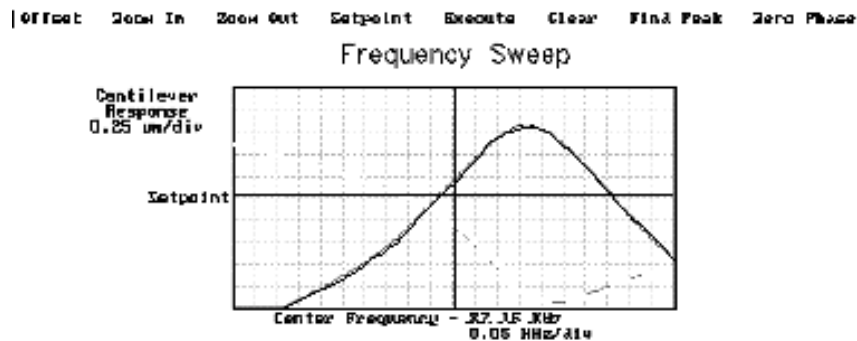
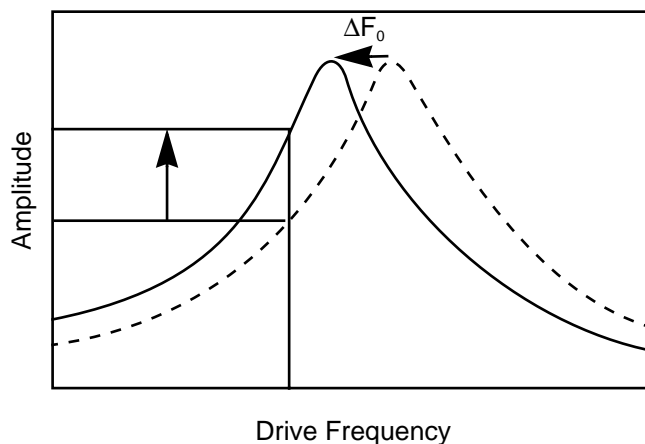

Figure 229-5 Cantilever Tune for Amplitude Detection
Figure 229-6 Shift In Amplitude at Fixed Drive Frequency
Set the **Drive frequency** to the left side of the cantilever resonance curve, as shown in Figure 229-5. This can be done by using the **AutoTune** feature to first find the resonance peak, then using **Offset** under the **Cantilever Tune** menu bar to manually move the drive frequency to the side of the resonance. For maximum sensitivity, set the **Drive frequency** to the steepest part of the resonance curve. As the tip oscillates above the sample, a gradient in the magnetic force will shift the resonance frequency f_0 ; (see Figure 229-6). Tracking the variations in oscillation amplitude while in LiftMode yields an image of the magnetic force gradients.
- When using amplitude detection, variations in **Drive Amplitude** affect sensitivity and image contrast as well as signal-to-noise ratio. This is because changes in the oscillation amplitude change the slope of the amplitude vs. frequency curve, and hence the effective sensitivity; see Figure 229-6. With phase detection and frequency modulation, changes in amplitude produce no change in contrast, and results are thus more reproducible than with amplitude detection.